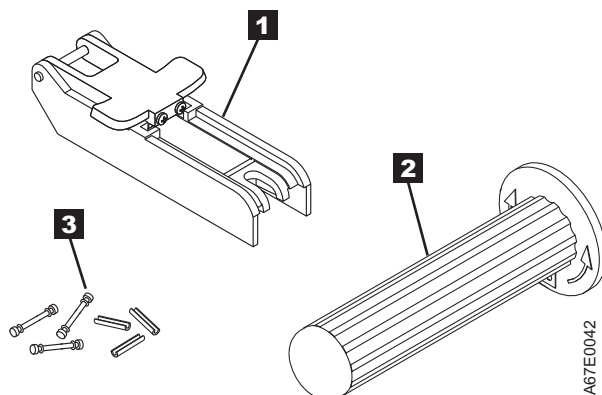

Figure 6-11. Leader Pin Reattachment Kit
- **Leader pin attach tool** (see **1** in Figure 6-11 on page 6-14). A plastic brace that holds the cartridge door open.
- **Cartridge manual rewind tool** (see **2** in Figure 6-11 on page 6-14). A device that fits into the cartridge's hub and lets you wind the tape into and out of the cartridge.
- **Pin supplies** (see **3** in Figure 6-11 on page 6-14). Leader pins and C-clips.